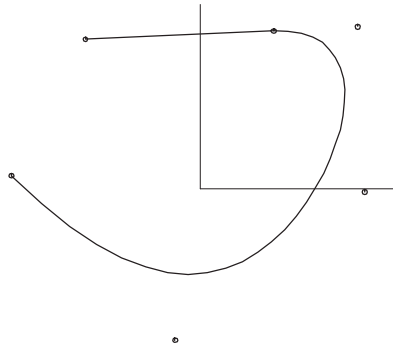

Fig. 7
- 7 Select 'bead1' and drag it off the end of the line to the right** (Fig. 7). Now you can see that the end ('pt1') and next-to-end ('bead1') control points of the B-spline Curve are in line with the Line, thus making the B-spline Curve tangent to the Line. This join is G1 — there is continuous slope at the join. (To make the join G2 — continuous slope AND curvature, you could add another bead on the line and include it, in sequence, as another control point for the B-spline Curve.)